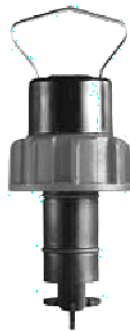

Figure 35. Sensor Model P, P1, and P2
- Model 2536-P0 for diameters from 2 to 4 in (50 to 100 mm) (**Figure 35**),
- Model 2536-P1 for diameters from 5 to 8 in (100 to 200 mm) (**Figure 35**),
- Model 2536-P2 for lines over 10 in. (250 mm) in diameter)(**Figure 35**. Sensor Model P, P1, and P2).